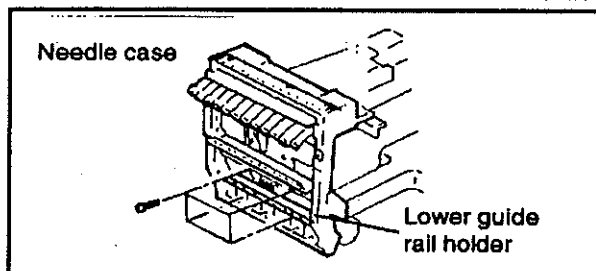

FIG.8
- (10) Position the needle bar to the top dead center and remove four retaining screws (f) of the lower guide rail holder. Drawing the needle case out from the bottom of the needle bar, remove the case from the arm (Figs. 8 and 9).